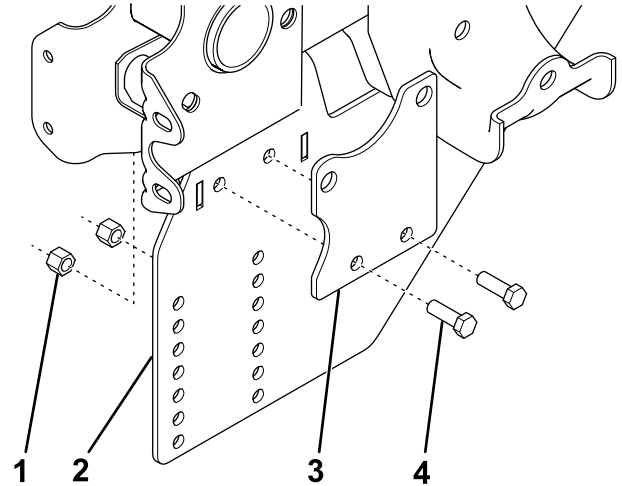

Figure 4
5. Loosely attach the bottom of the sidestraps to the sideplates using 2 bolts (1/2 inch) and nuts (Figure 4).